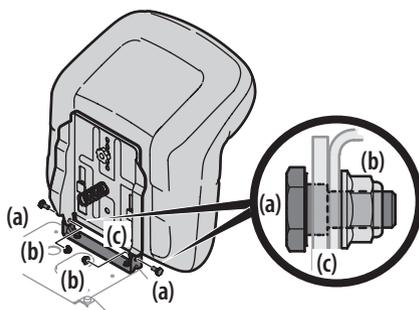

Figure 9
6. Install the two shoulder bolts (a) and lock nuts (b) removed from the seat mounting bracket (c) in Step 1. See Figure 9.
NOTE: Make sure that the bolt's shoulder is completely recessed into the seat bracket when securing the lock nut. See inset of Figure 9.